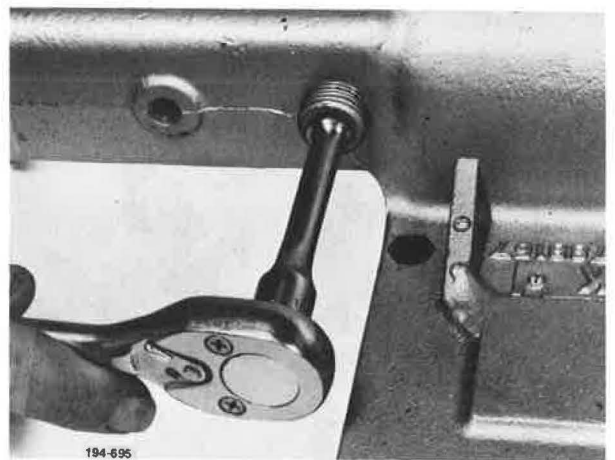

Figure 5-771. Removing Plug
7. Remove interlock plunger plug from air shift cover. See Figure 5-771.